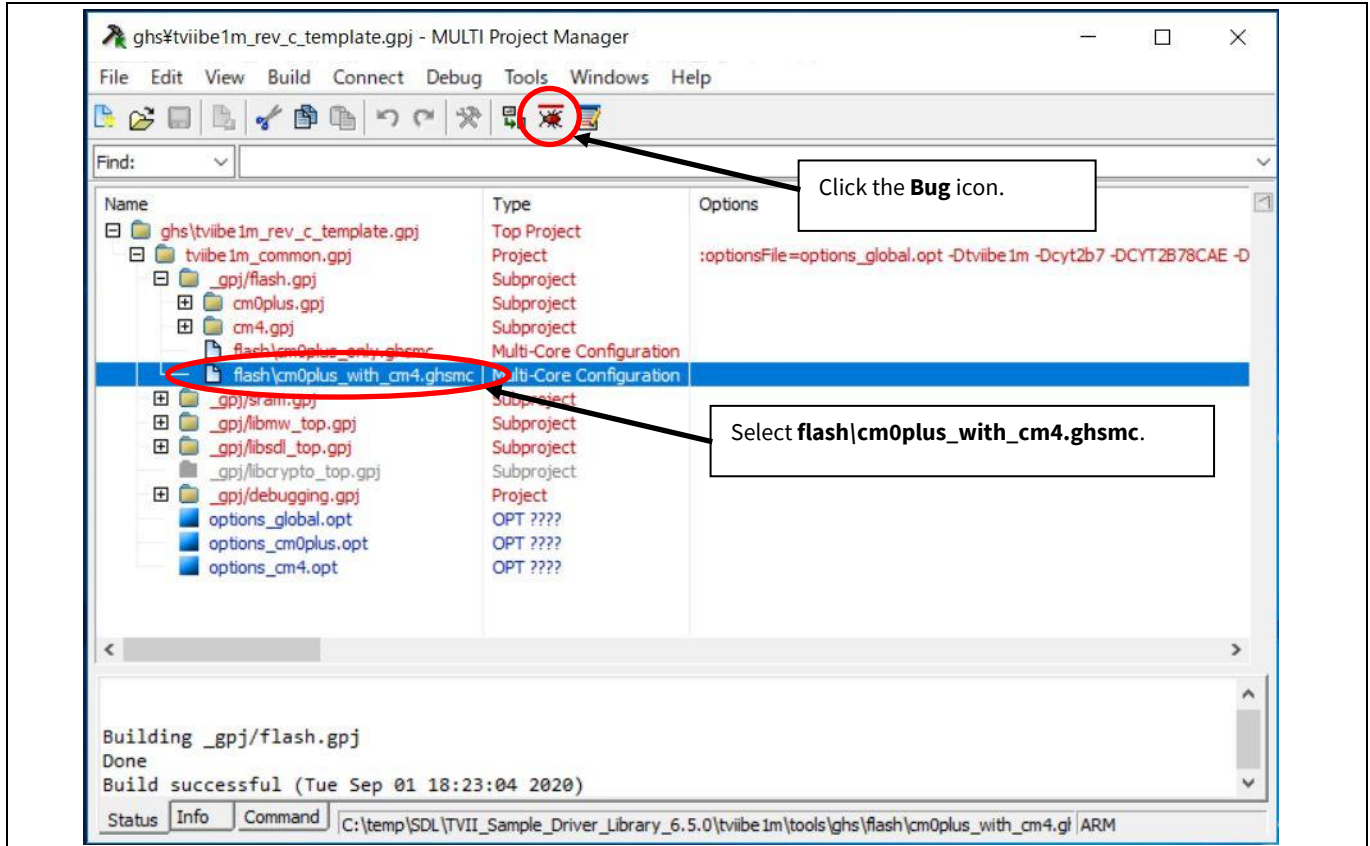

Figure 15 Debug the Project of SDL Project
1. For execution on the Flash memory, select `flash\cm0plus_with_cm4.ghsmc` and click the **Bug** icon as shown in **Figure 15**. Debugging of the program on the Flash memory begins.